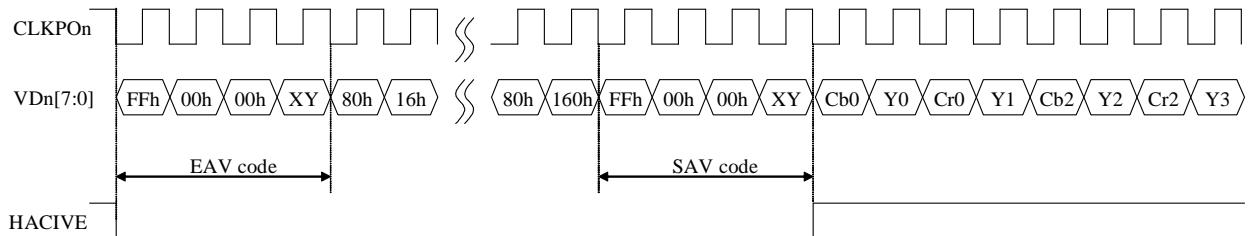

Figure 22. Timing Diagram of ITU-R BT.656 format
**In single channel standard ITU-R BT.656 format, SAV and EAV sequences are inserted into the data stream to indicate the active video time. It is noted that the number of active pixels per line is constant in this mode regardless of the actual incoming line length. The output timing is illustrated in Figure 22. The SAV and EAV sequences are shown in**